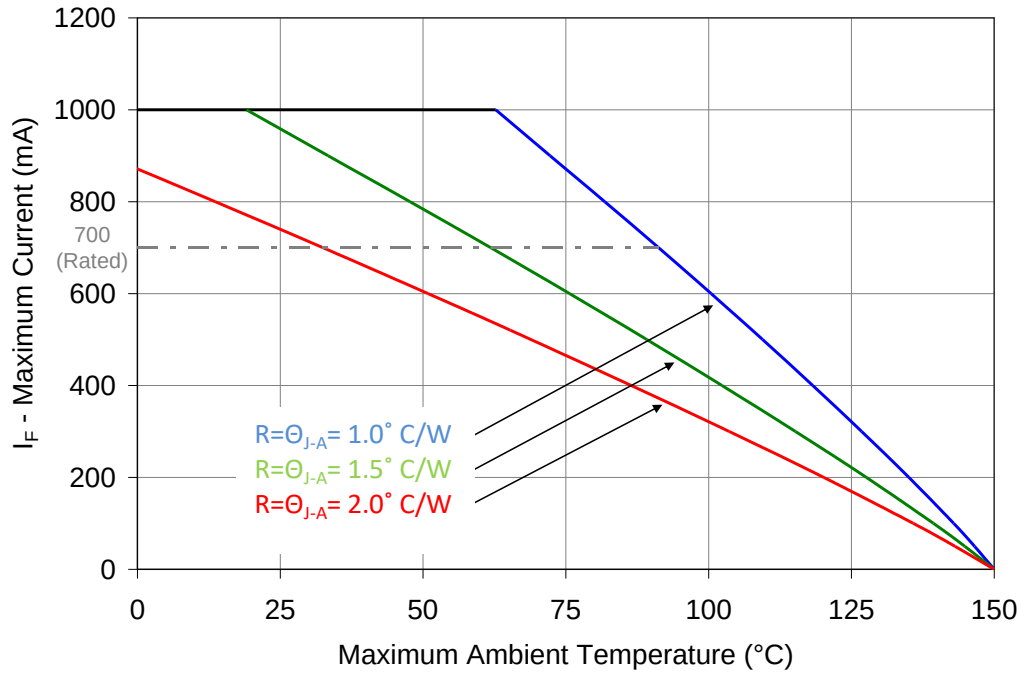

Figure 10: Maximum forward current vs. ambient temperature based on $T_{J(\text{MAX})} = 150^{\circ}\text{C}$.
- Maximum DC forward current (per die) is determined by the overall thermal resistance and ambient temperature. Follow the curves in Figure 10 for current de-rating.